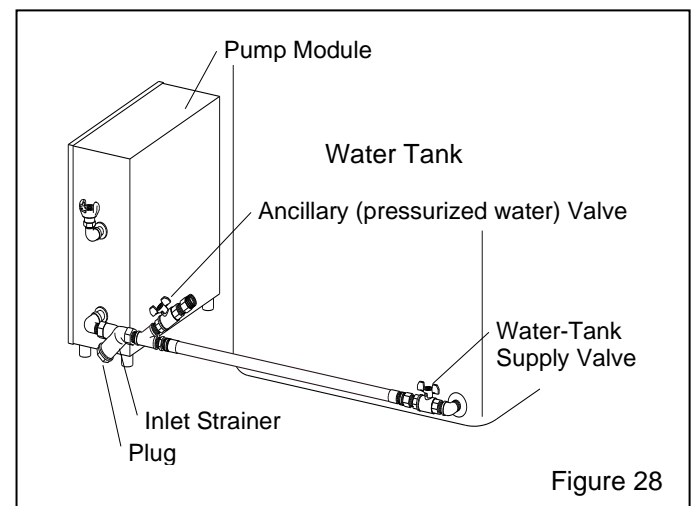

Figure 28
6.6.1 Water freezes and expands at 32° F. When shutting down be sure to drain the water tank, refer to Figure 28 and open the water-tanks supply valve and ancillary water valve to allow for expansion. Drain all water from the pump module by removing the plug on the inlet strainer.